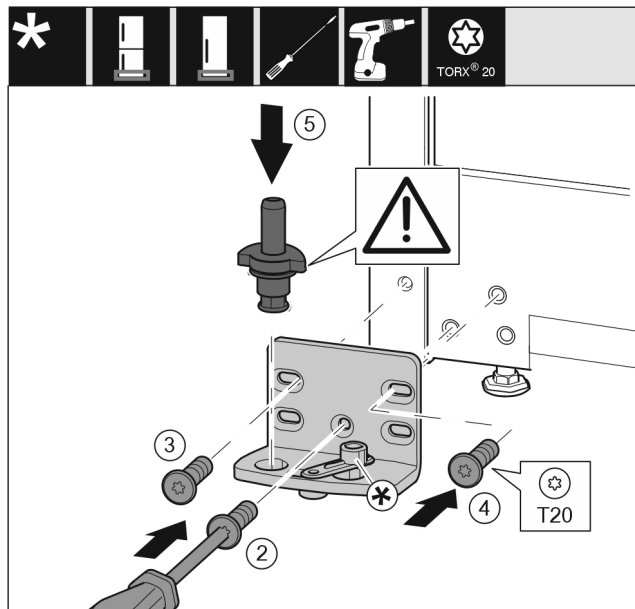

Fig. 17
- ▶ Place the swap bearing block on the other side and use a screwdriver to screw it on. Start with the screw Fig. 17 (2) at the bottom in the middle.
- ▶ Tighten screw Fig. 17 (3) and screw Fig. 17 (4).
- ▶ Insert the bearing bolt Fig. 17 (5) completely. Ensure that the latching cam is pointing towards the rear.